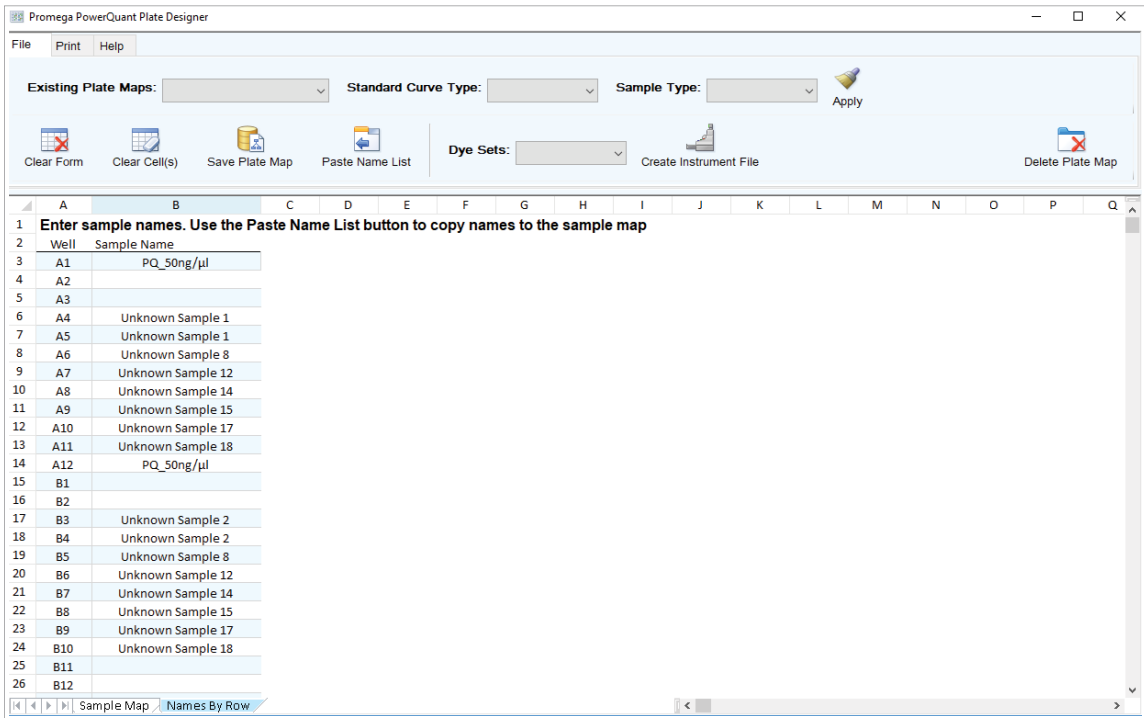

Figure 73. The 'Names by Row' tab in the Promega PowerQuant Plate Designer.
- Alternatively, the 'Names by Row' tab (located at the bottom of the screen) can be used to arrange sample names and well positions listed by row. Use the **Paste Name List** icon to transfer the sample name information entered on this tab to the 'Sample Map' tab (Figure 73).